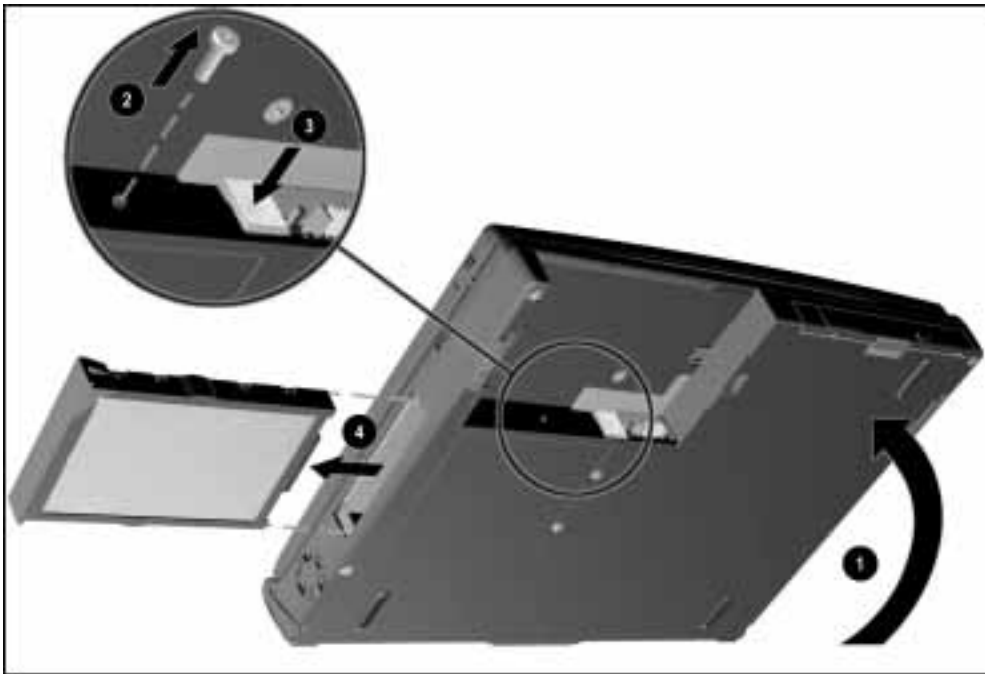

Figure 5-10. Removing a Hard Drive
3. Tilt the computer at an angle **1** so the bottom of the computer is accessible (Figure 5-10).